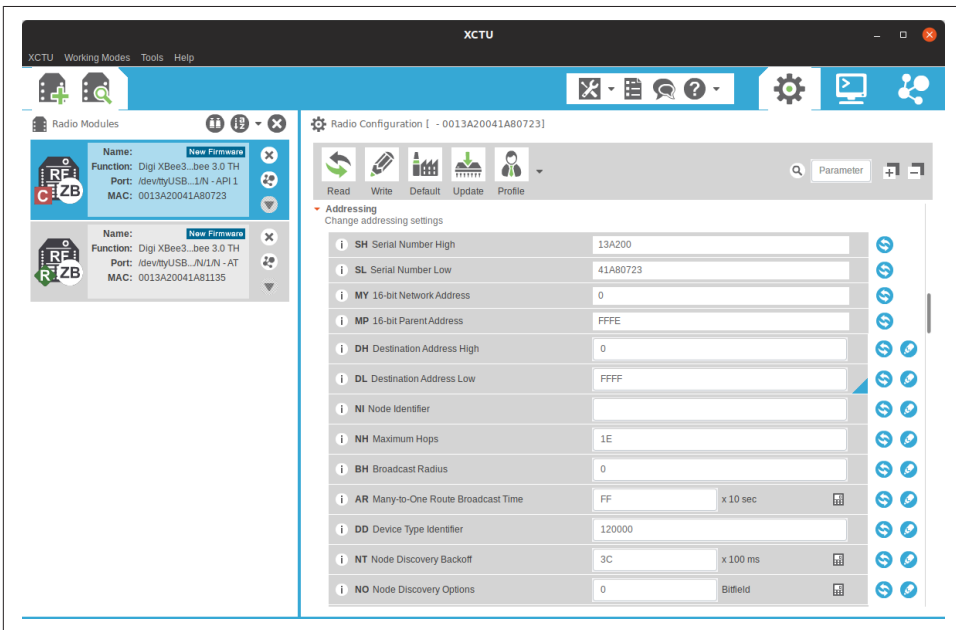

Figure 14-5. Looking up the high and low serial numbers in X-CTU
In your code, you must replace `0013A200` (DH) and `403B9E1E` (DL) with the high and low addresses of the destination radio. You can look up the high (ATDH) and low (ATDL) portions of the serial number by connecting to the destination radio using X-CTU, as shown in Figure 14-5: in the code, use the destination radio's SH (Serial Number High) for DH and the destination radio's SL (Serial Number Low) for DL. The numbers are also printed on the label underneath the XBee. (For a Series 1 XBee use 0 for the DH, and for the DL use the MY address of the XBee you want to talk to.)